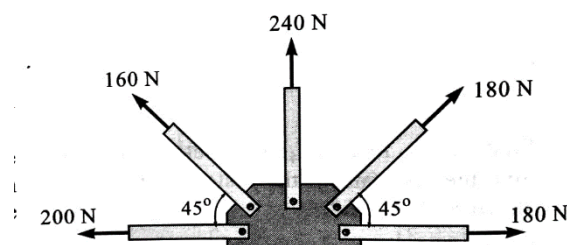

Fig.2
- A gusset plate of roof truss is subjected to forces as shown in Fig.2. Determine the magnitude of the resultant force and its orientation measured counter clockwise from the positive x-axis. [10 M]